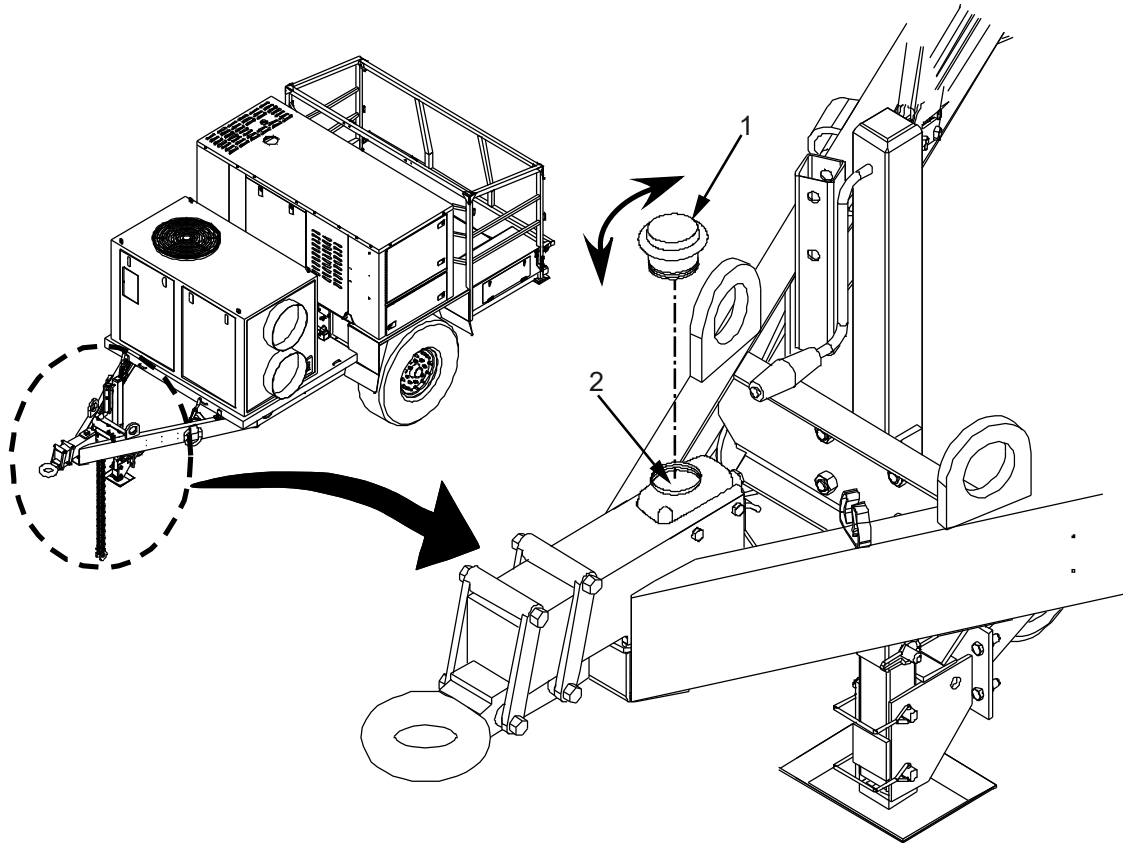

Figure 3. Master Brake Cylinder Service.
1. Remove and retain master cylinder reservoir cap (Figure 3, Item 1).
2. Inspect fluid level in master cylinder reservoir (Figure 3, Item 2). Fluid level should be approximately 3/4" from the neck of the master cylinder reservoir (Figure 3, Item 2).
3. If necessary, add brake fluid to master cylinder reservoir (Figure 3, Item 2).
4. Replace master cylinder reservoir cap (Figure 3, Item 1) (cap should turn 1/4 turn clockwise to tighten).